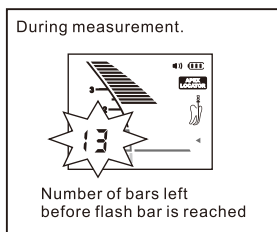

Fig.20
**Information display : Number of bars left before flash bar is reached (during measurement). (Fig.20)